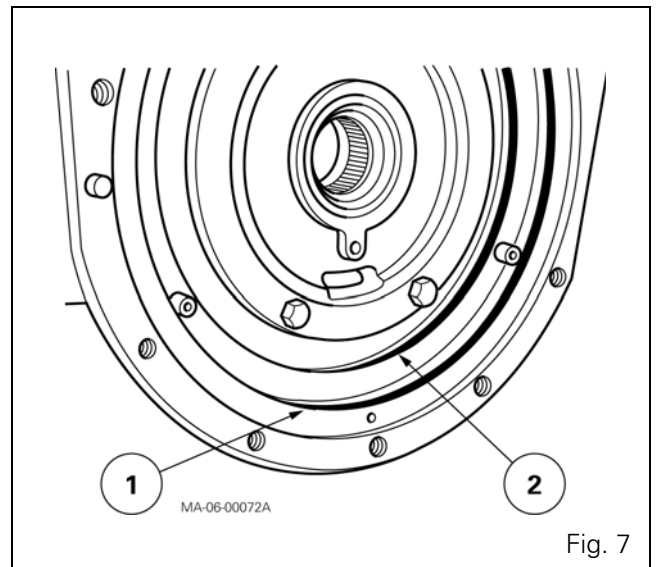

Fig. 7
8. Fit spring pins (4) about 8 mm from machined face F of the piston (Fig. 3). Fit new O'rings (1) (2) (Fig. 7) after smearing them with a moderate quantity of miscible grease so that they remain at the bottom of the groove.